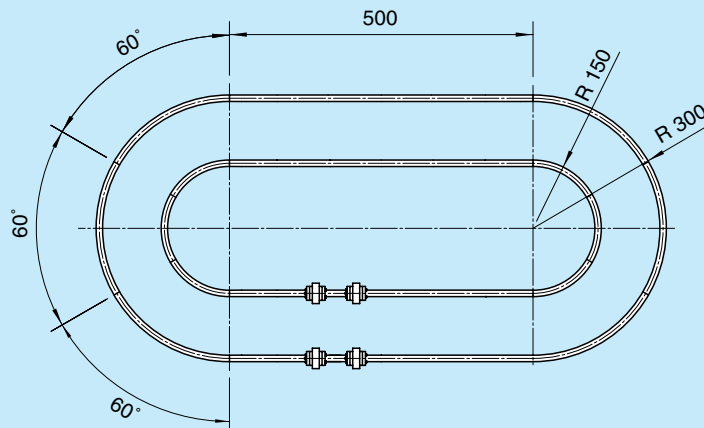

Fig.14 Sample of model number coding
- Fig. 14 shows the combination of units according to the above sample of model number coding.